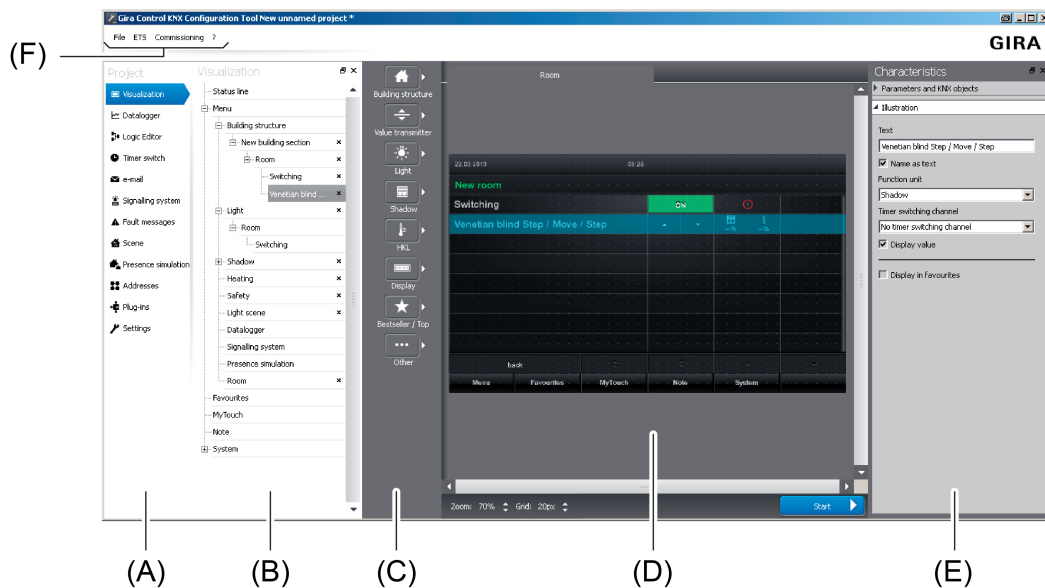

Figure 8: Structure of the program interface (standard structure)
The program interface is subdivided into different areas (Figure 8), in which the configuration of the device can be structured. Structure trees in the project bar (A) and in the structure view (B) make it easier to navigate through the functions, device settings and display pages. Display pages can be set up quickly and customer-friendly as well as freely according to individual criteria by using a template library with building structures and KNX functions in the templates bar (C). A large work area (D) allows the set configuration to be previewed and simulated. Parameters of functions or graphic display elements are available clearly in property lists (E) or on special display pages in the work area. All program functions (file operations, ETS synchronisation, commissioning) can be retrieved and executed via the menu bar (F). Many configuration processes - for example, the creation of new rooms and KNX functions - can be executed with the mouse by drag & drop.